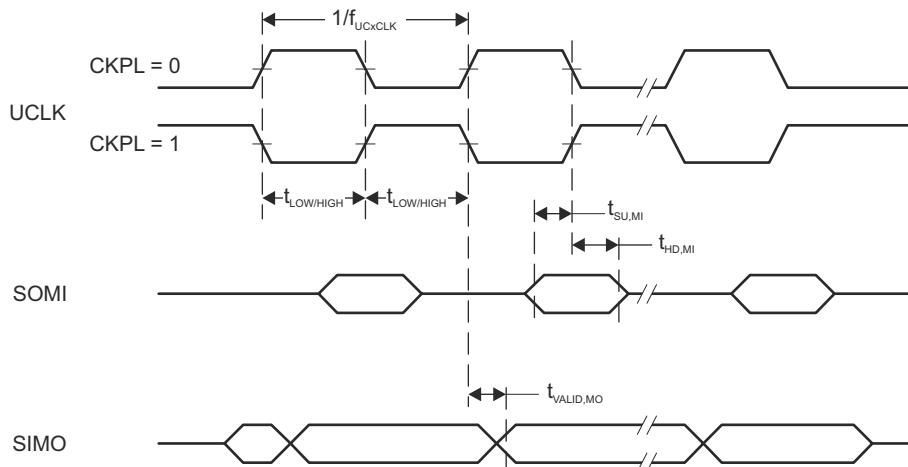
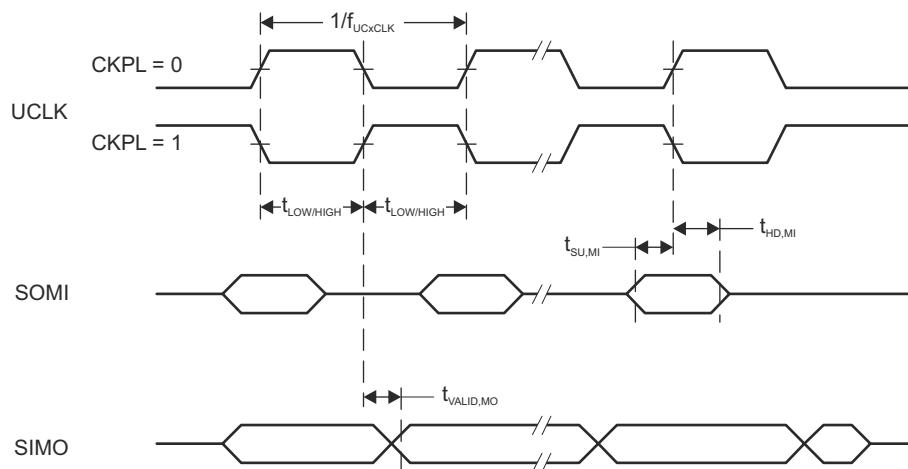

Figure 8-10. SPI Master Mode, CKPH = 0
Figure 8-11. SPI Master Mode, CKPH = 1
(2) Specifies the time to drive the next valid data to the SIMO output after the output changing UCLK clock edge. See the timing diagrams in Figure 8-10 and Figure 8-11.
(3) Specifies how long data on the SIMO output is valid after the output changing UCLK clock edge. Negative values indicate that the data on the SIMO output can become invalid before the output changing clock edge observed on UCLK. See the timing diagrams in Figure 8-10 and Figure 8-11.